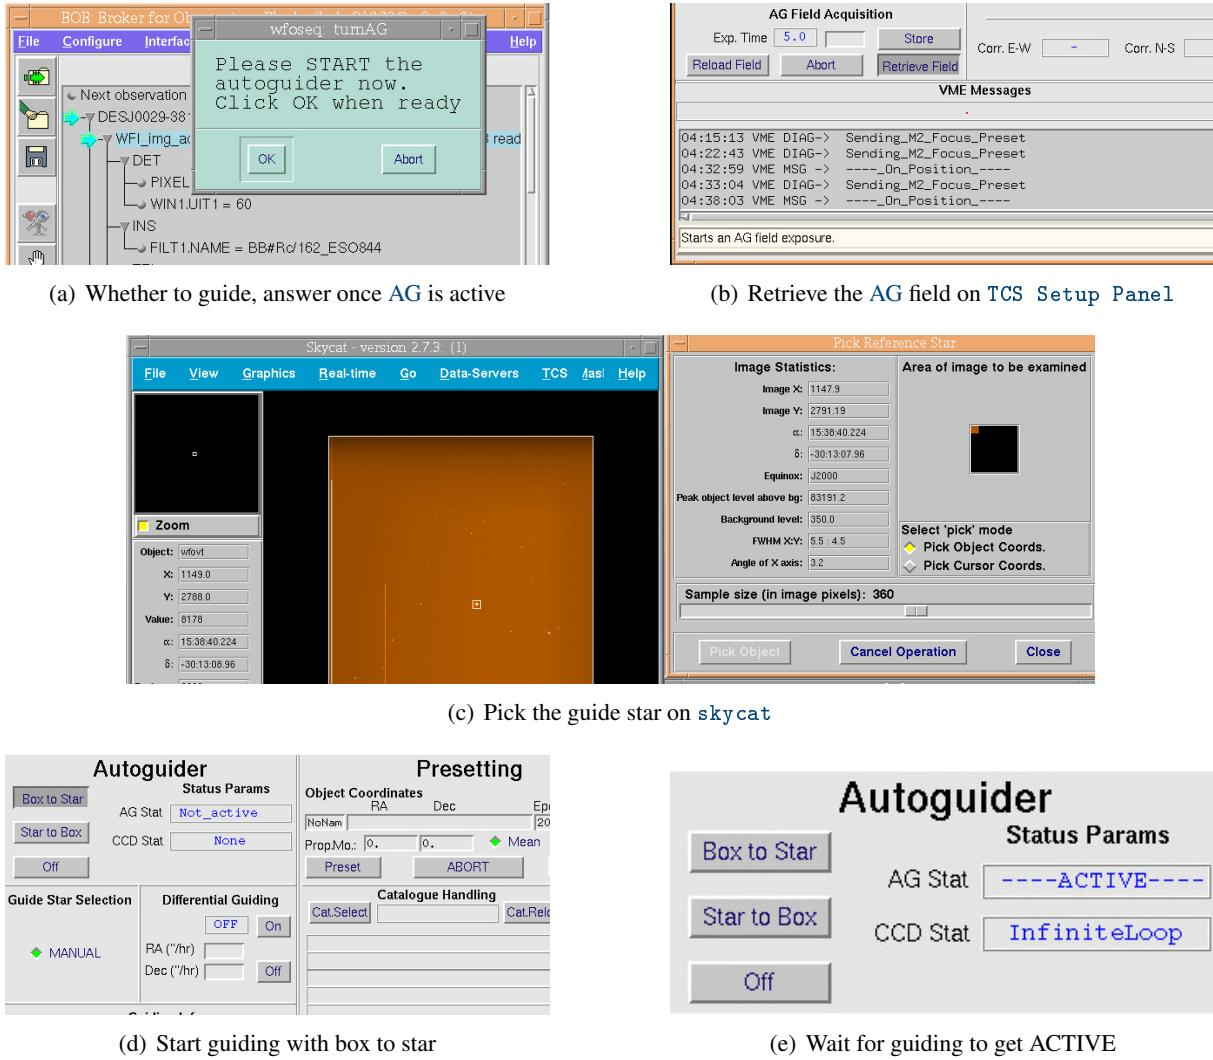

Figure 6.2: Setting the WFI AG for targets outside the solar system
A graphical outline of the procedure is given in Fig. 6.2, p. 56 in the case no differential guiding (for solar
- A. On the **TCS** workstation, acquire the guide field (Fig. 6.2(b), p. 56)
- C. On the autoguider windows (Fig. 11.3, p. 103), choose the guide star (Fig. 6.2(c), p. 56)
- D1. Activate the guiding (Fig. 6.2(d), p. 56)
- D2. Wait for guiding to start (Fig. 6.2(e), p. 56)
- E. Proceed with the observation, typically by clicking on pop-up asking for guiding (Fig. 6.2(a), p. 56)
- E. Proceed with the observation, typically by clicking on pop-up asking for guiding (Fig. 6.2(a), p. 56).